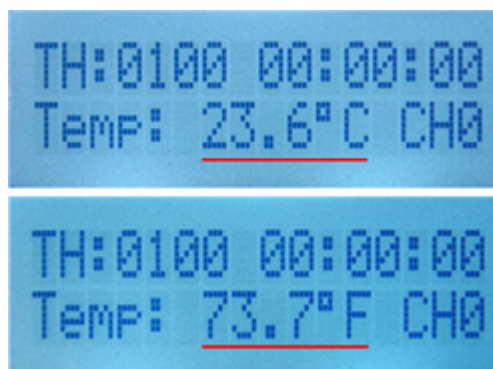

Figure 7. Display Real-Time Temperature
1. Read real-time temperature on LCD. Press S2 on LaunchPad for switching temperature display at °C or °F as shown in Figure 7.